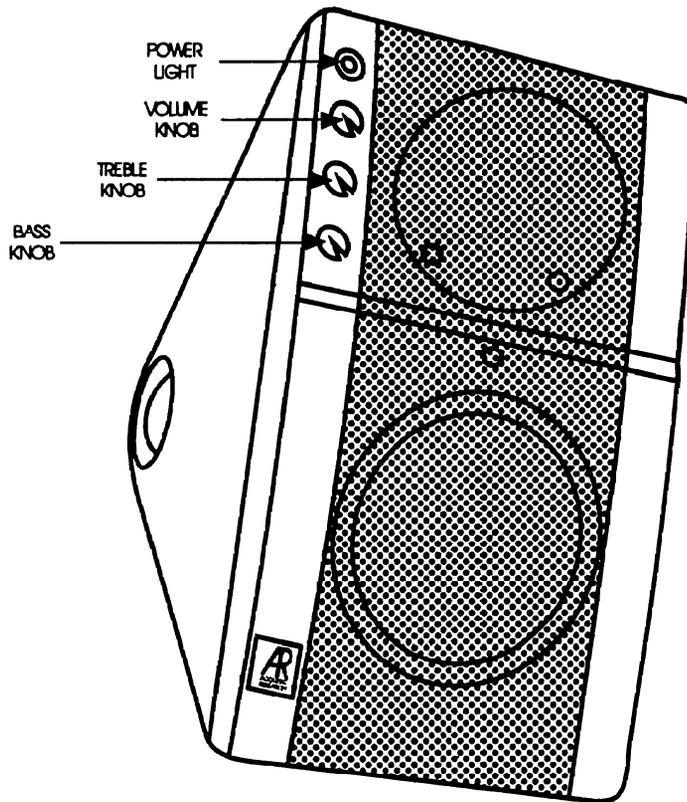

Figure 2-28. Speaker/Amplifier Controls and Indicators (Front)
2.3.4.9 Speaker/Amplifier. The speaker/amplifier, shown in Figures 2-28 and 2-29, is connected to the Loader's Crew Station cable and projects tank sound effects into the tank.